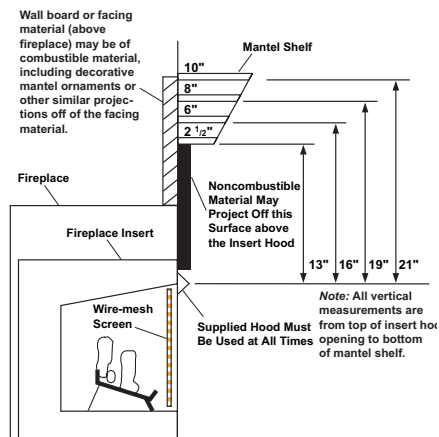

Figure 12 - Minimum Mantel Clearances for Fireplace Insert Installation
- A. Clearances from side of fireplace cabinet to any combustible material and wall should follow diagram in Figure 12, page 12.
If there is a mantel above masonry fireplace, you must meet minimum clearance between mantel shelf and top of fireplace opening (see Figure 12).
Installation of this fireplace insert involves installing fireplace insert into an existing masonry fireplace. If using a mantel above the fireplace, you must follow the clearances shown in Figure 12, page 12. Follow instructions below to install fireplace insert in this manner.